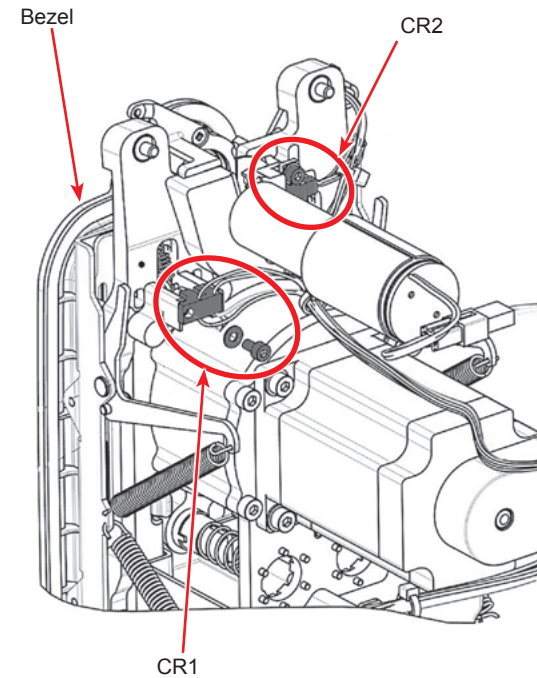

Figure 3-76 CR3 Sensor Cable Removal
- 55.3 Remove two 2.5 mm hex screws securing sensor CR2 to Fluidics chassis (Figure 3-76).